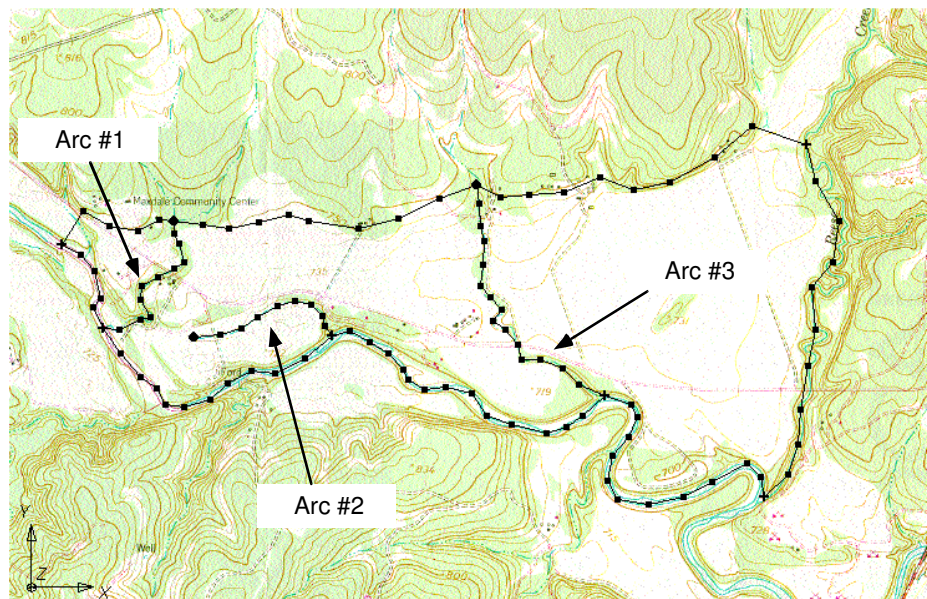

Figure 8-2 The Drain Arcs.
2. Create the arc labeled as arc #1 in Figure 8-2. Start by clicking on the bottom arc, create the arc by clicking points along the creek bed, and end the arc by double clicking on the top arc.
3. Create the arcs labeled arc #2 and arc #3 in Figure 8-2 the same way you made arc #1.